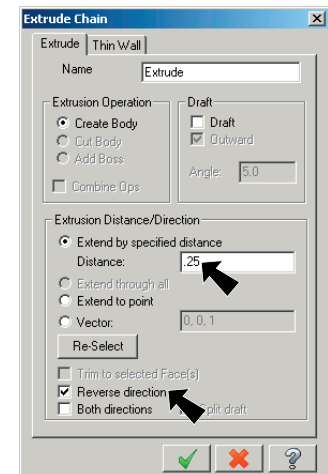

Fig. 5
Step 6. The direction arrow on the chain should **point back to the left**, Fig. 6. If the arrow points in the wrong direction, check Reverse Direction in the Extrude Chain dialog box, Fig. 5.
Step 7. Set **Distance** to **.25** in the Extrude Chain dialog box click the OK button , Fig 5.